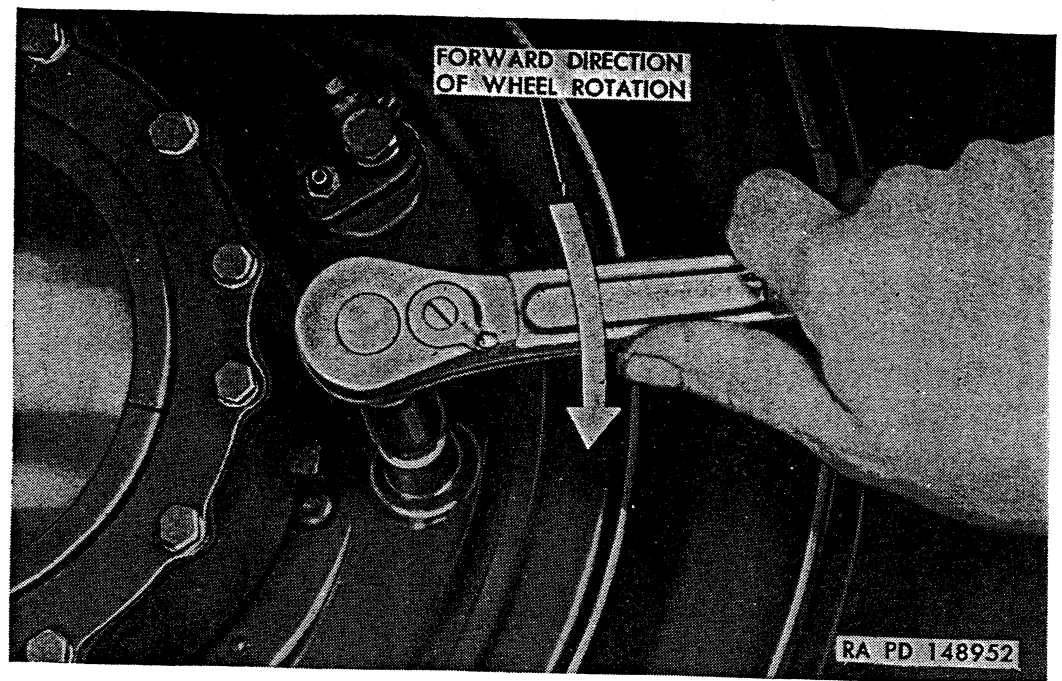

Figure 245. Adjusting brake shoes (front shown).
- (1) Jack up axle. Make a brake application and release to center brake shoes with brake drums.
- (2) Using a suitable wrench on brake shoe adjusting studs (fig. 245), turn studs in direction of forward rotation of wheel (fig. 245) until a heavy drag is felt as wheel is turned by hand; then turn studs in opposite direction one-half to one-third turn to provide running clearance between brake shoe lining and brake drum.
- (3) After completing adjustment at each wheel, make sure wheel turns freely. Remove jack from under axle.